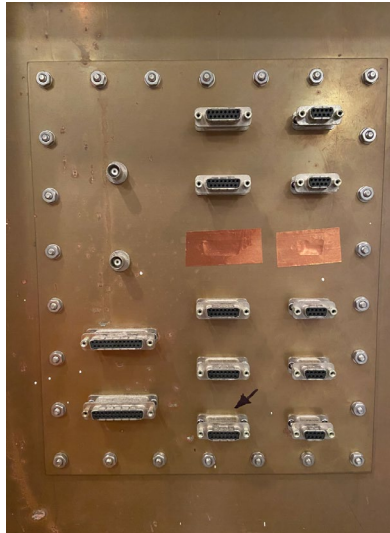

Figure 7
- Inside the MRI room (Zone 4), connect the other end of the long DB15 cable from the transducer box to the penetration panel, as indicated by the black arrow (Fig 7).